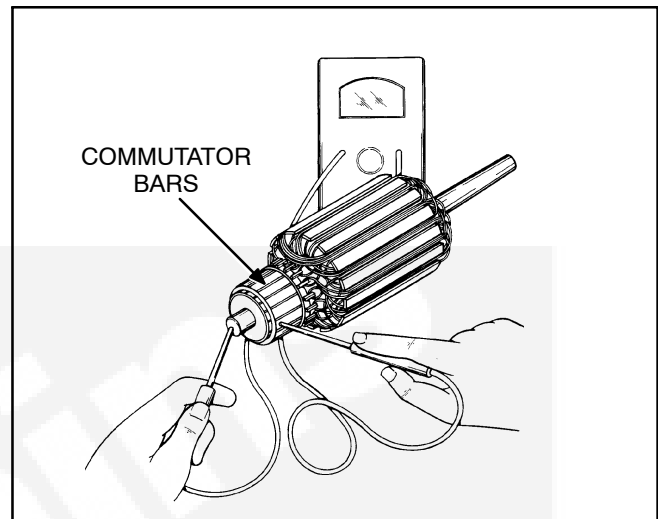

FIGURE 8-30. TESTING ARMATURE FOR GROUNDS
**Testing Armature for Grounds:** Touch one ohmmeter lead to a commutator bar and then touch the other lead to armature shaft and core laminations. A low resistance reading indicates a grounded armature. Replace grounded armature with a new part. See Figure 8-30.